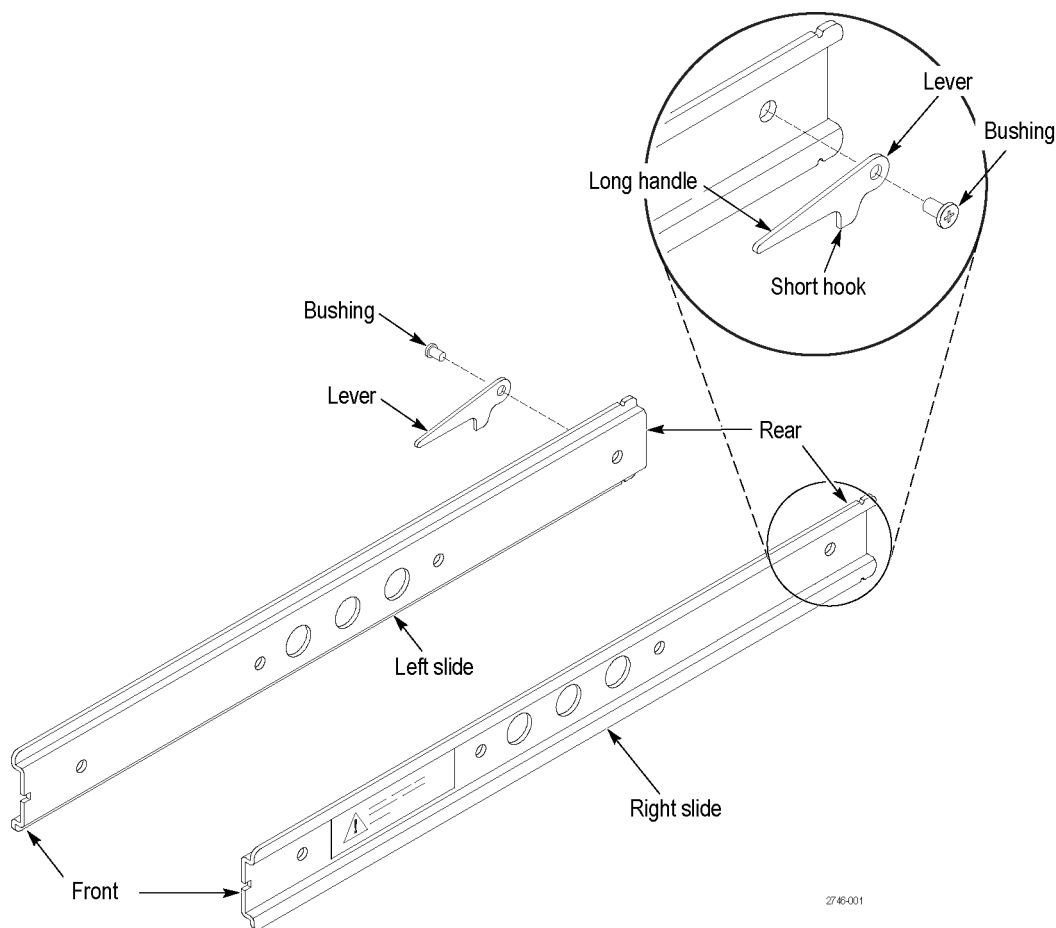

Figure 10: Attaching the slides (all instruments except the SPG8000)
1. Identify the right rear and left rear of each slide. A warning label will be on the outside side of each slide. (See Figure 10.)
- a. **All instruments except the SPG8000:** Using either the metric or English screws, depending on your instrument, insert three screws into the first three holes. (See Figure 10.)